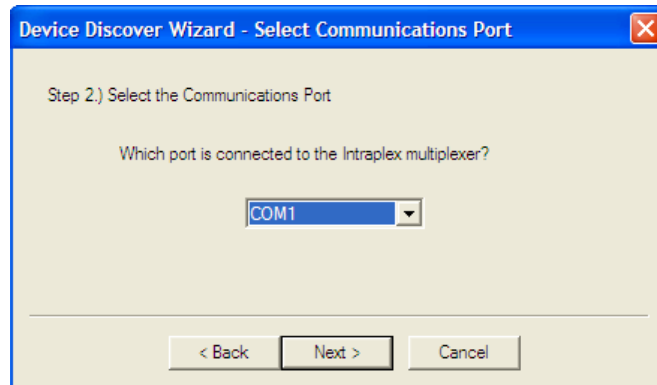

Figure 5-7. Select COM Port Dialog Box
4. Click **Next**. The **Select COM Port** dialog box appears (Figure 5-7).